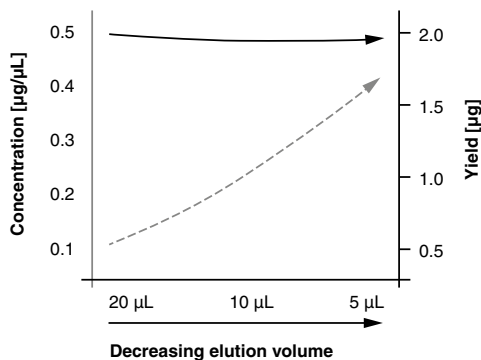

Figure 2 Correlation between elution volume and DNA concentration (NucleoSpin® cfDNA XS Columns)
- The incubation of the eluate at higher temperatures may be adjusted according to Figure 2. The incubation times and conditions shown will reduce an initial elution volume of 20 μL to about 12–14 μL and will effectively remove traces of ethanol as described above.